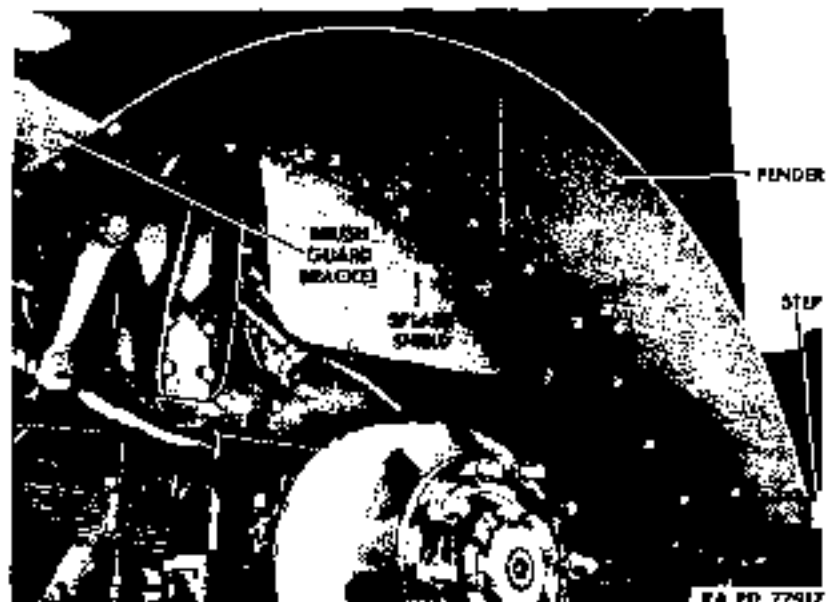

Figure 95 - Fender Installed
a. **Description** (fig. 95). The front fenders are attached to cowl and cab above front wheels, to steps at rear, and to brush guard bracket at front. Rear quarter fenders are attached to fender cross supports in front of rear wheels.